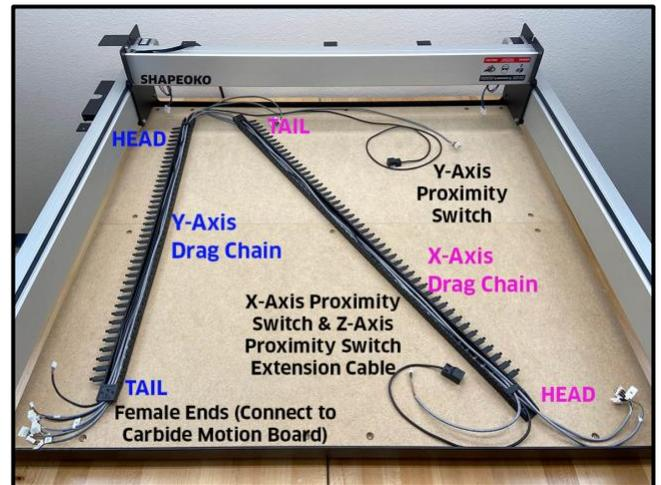

Figure 22
3. Insert the proximity switches and extension cable into the drag chain. See *Fig. 22*.